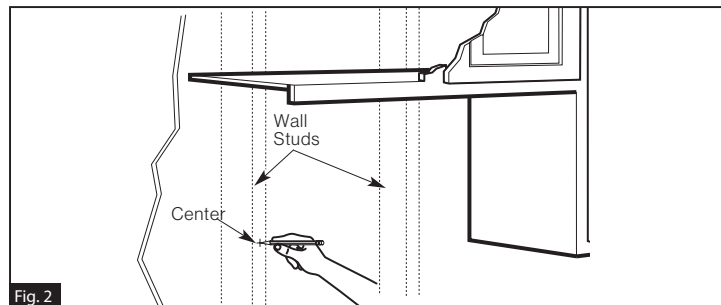

Fig. 2
- (OR)**
3. Draw a line down the center of the studs. (Fig. 2)